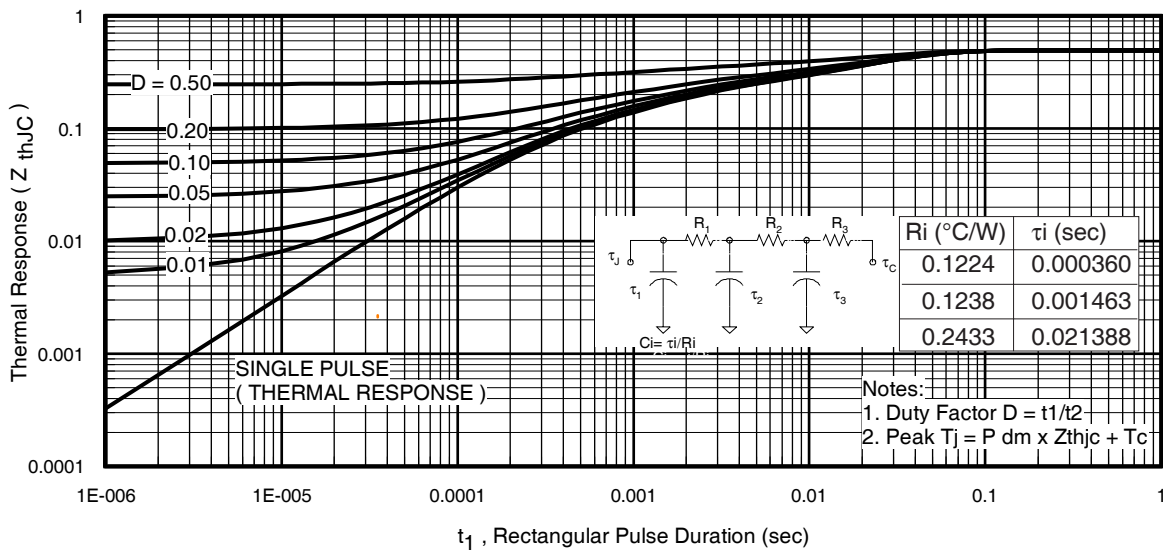
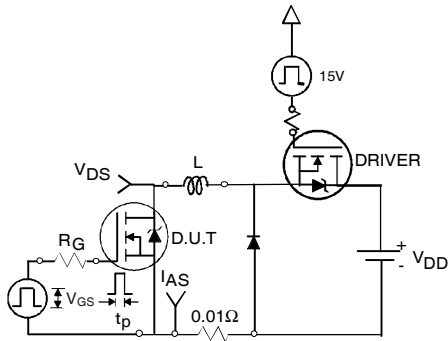

Fig 11. Maximum Effective Transient Thermal Impedance, Junction-to-Case
Fig 12a. Unclamped Inductive Test Circuit
- ① Repetitive rating; pulse width limited by max. junction temperature. (See fig. 11).
- ② Limited by T_{Jmax} , starting $T_J = 25^\circ\text{C}$, $L = 0.13\text{mH}$, $R_G = 25\Omega$, $I_{AS} = 90A$, $V_{GS} = 10V$. Part not recommended for use above this value.
- ③ $I_{SD} \leq 90A$, $di/dt \leq 340A/\mu s$, $V_{DD} \leq V_{(BR)DSS}$, $T_J \leq 175^\circ\text{C}$.
- ④ Pulse width $\leq 1.0\text{ms}$; duty cycle $\leq 2\%$.
- ⑤ $C_{oss\ eff.}$ is a fixed capacitance that gives the same charging time as C_{oss} while V_{DS} is rising from 0 to 80% V_{DSS} .
- ⑥ Limited by T_{Jmax} , see Fig.12a, 12b, 15, 16 for typical repetitive avalanche performance.
- ⑦ This value determined from sample failure population. 100% tested to this value in production.
- ⑧ R_θ is measured at T_J of approximately 90°C .
3. Equation below based on circuit and waveforms shown in Figures 12a, 12b.
$Z_{thJC}(D, t_{av})$ = Transient thermal resistance, see figure 11)